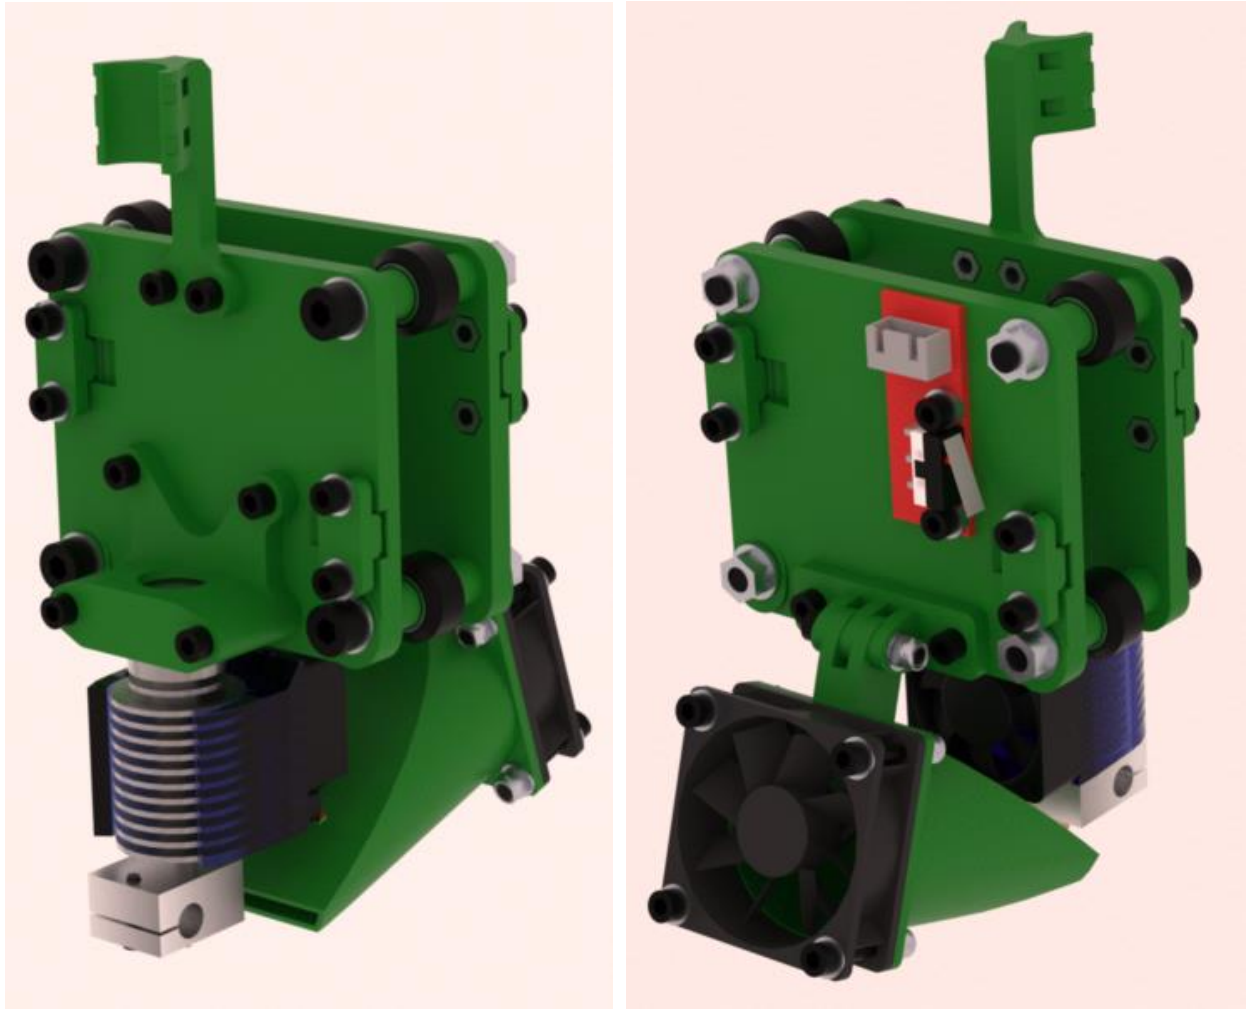

Figure 41: Completed Print Carriage Assembly
- The final print carriage assembly is shown in Figure 41.